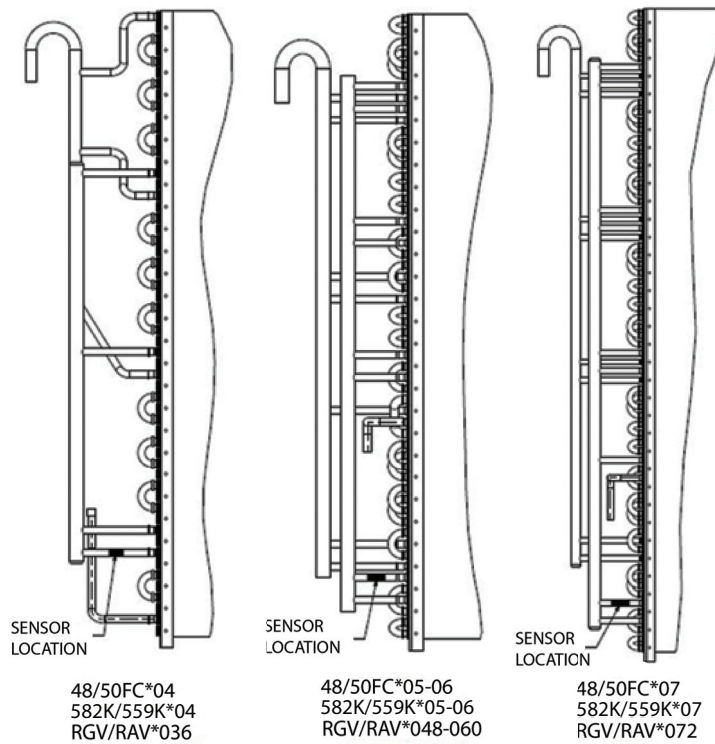
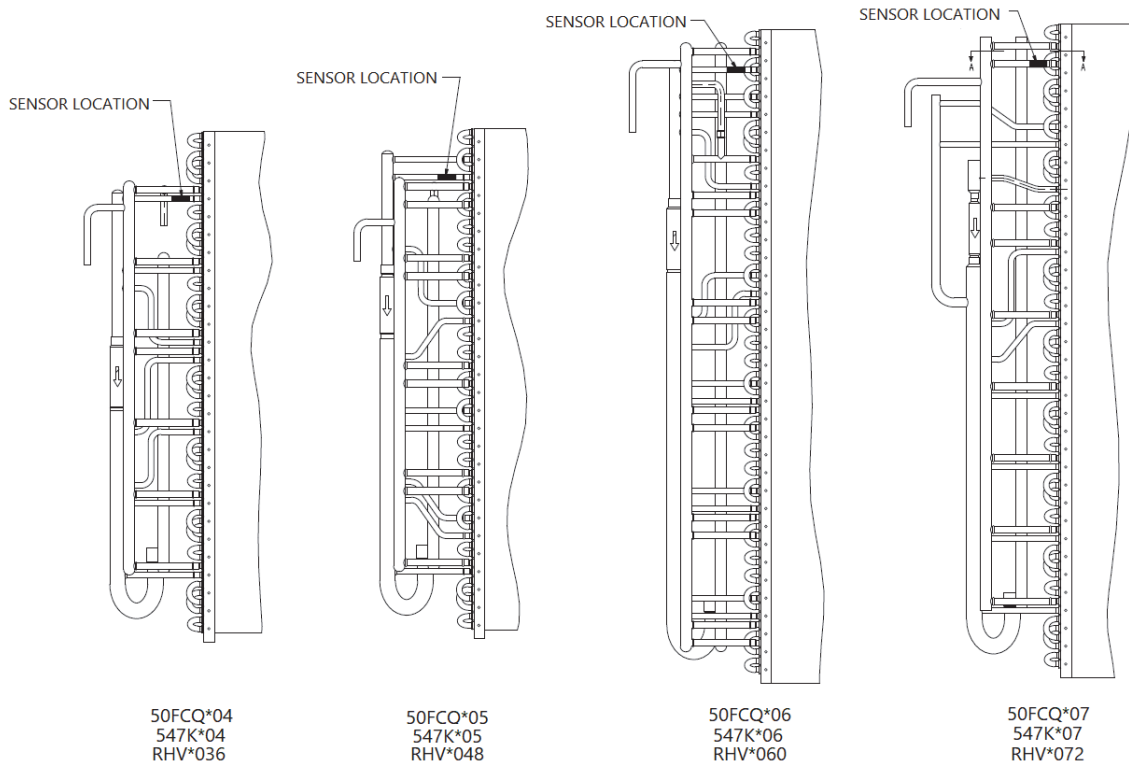

Fig. 13 — Sensor Locations for 48/50FC, 582K/559K, RGV/RAV Units
Fig. 14 — Sensor Locations for 50FCQ, 547K, RHV Units
4. Install the controller's sensor (Reference #14 from Table 1) on the outdoor condenser coil. Refer to Fig. 13 for 48/50FC, 582K/559K, and RGV/RAV units. Refer to Fig. 14 for 50FCQ, 547K, and RHV units. When installing the sensor, use 2-in. insulation tape PF01-84 and wire tie HY76TB125 to secure the sensor to the coil header.